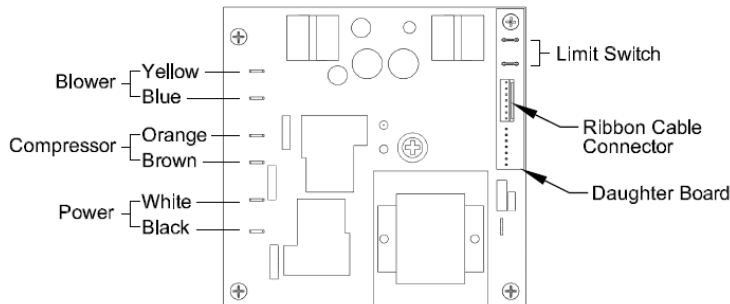

Figure 3 - Power Board Connections
- Models 1710A, 1750A & 1770A only** – Remove the two (2) black limit switch leads and the daughter board from the power board – it will be reinstalled on the replacement power board (see **Figure 3**).